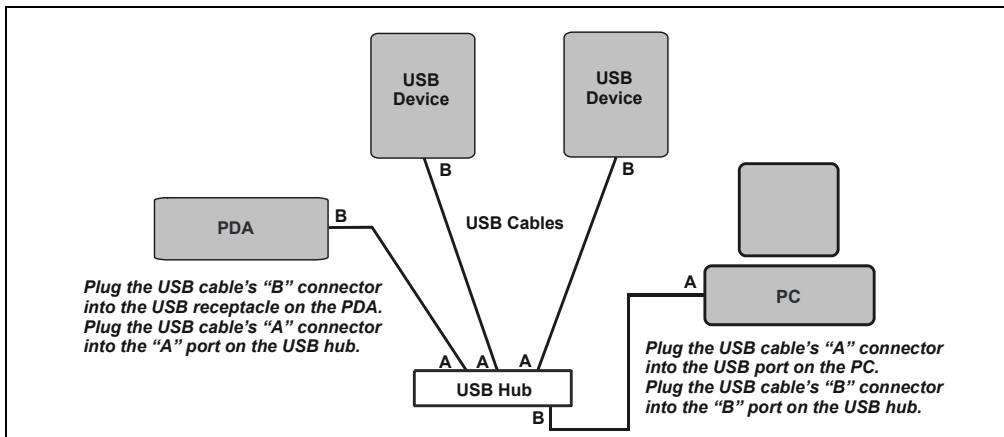

Figure B-7. Example USB Connections:
1. Plug the "A" connector of a USB cable (P/N 063246) into a port on the external USB hub (P/N 060392) (see Figure B-7).
4. Plug the "B" connector of the USB cable into a port on the external USB hub (see Figure B-7).